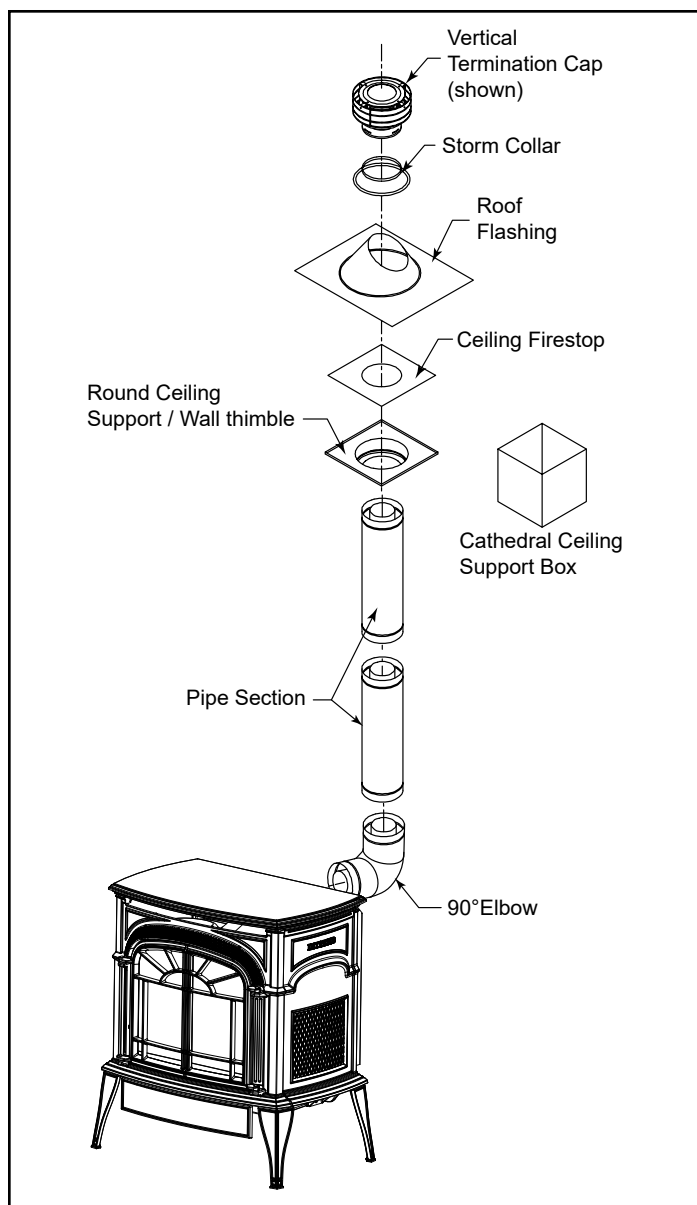

Figure 3.19
- Vertical Terminations, Figure 3.19